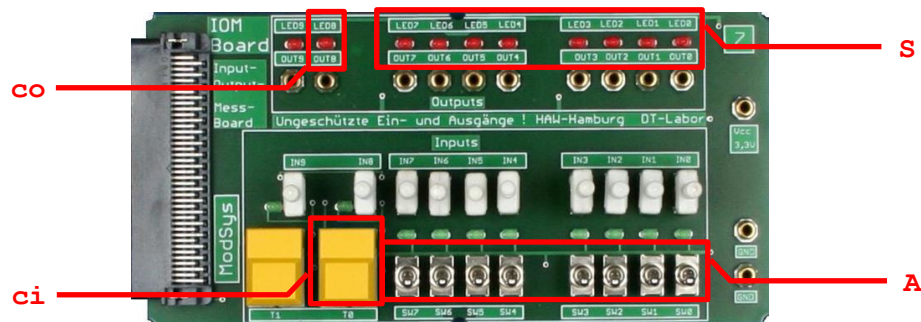

Fig. 4: PART 1 – VHDL Port mapping of Connector 3
- Familiarize yourself with using the board resources (see also Fig. 4/5).